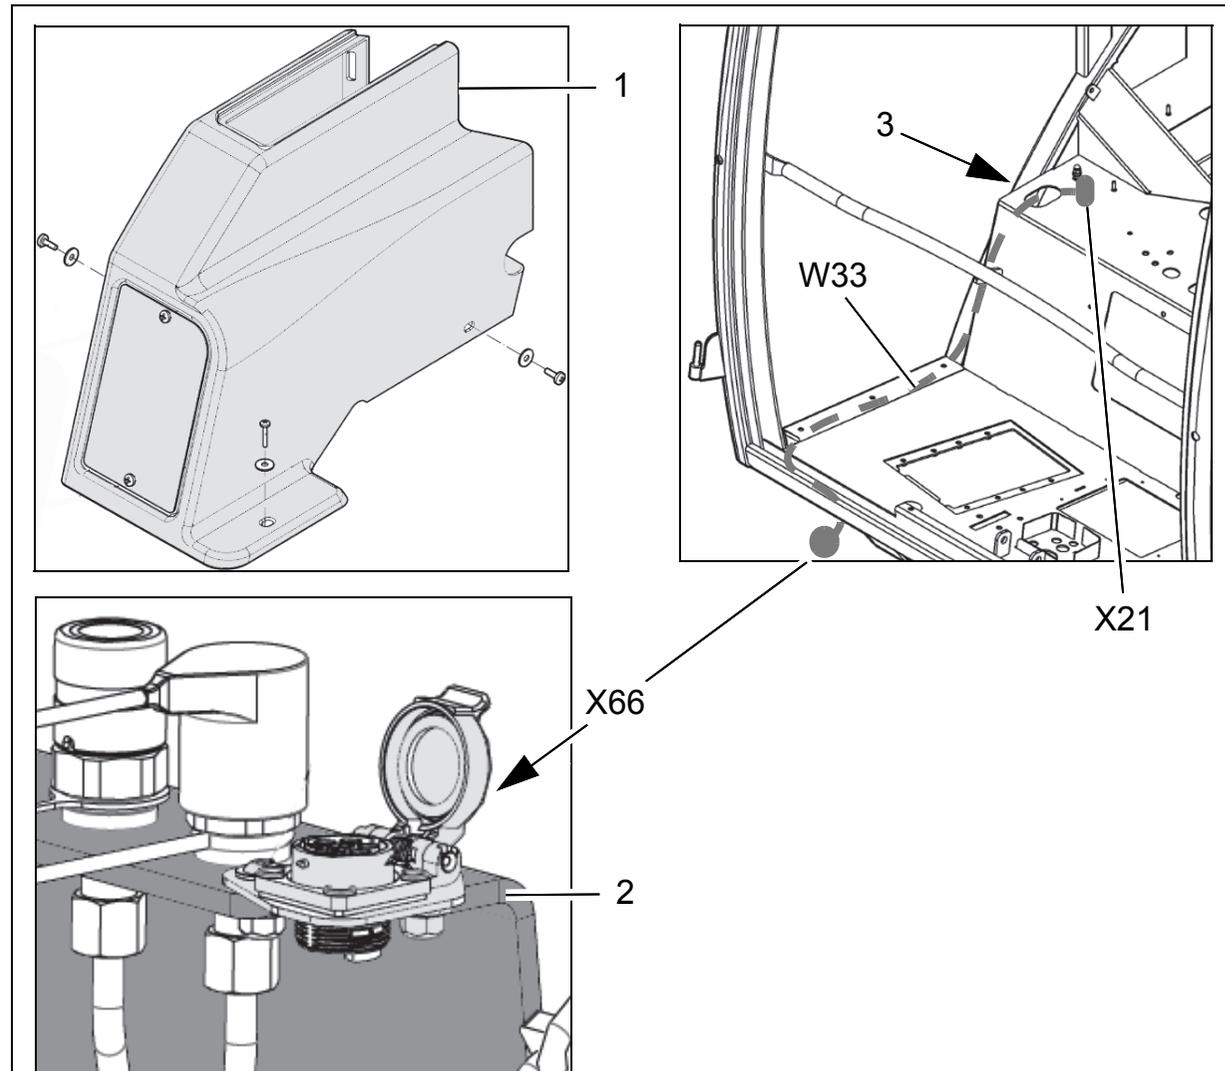

Fig. 2
2. Remove the right-hand side console (Fig. 2/1) in the driver's cab.
3. Route cable loom W33 from the plug panel (Fig. 2/2) through the hole (Fig. 2/3) into the driver's cab.
Note: The hole (Fig. 2/3) for leading through plug X21 is too small. Remove plug before routing. Pay attention to the pin assignments of the plug when doing this, see section entitled circuit diagrams.